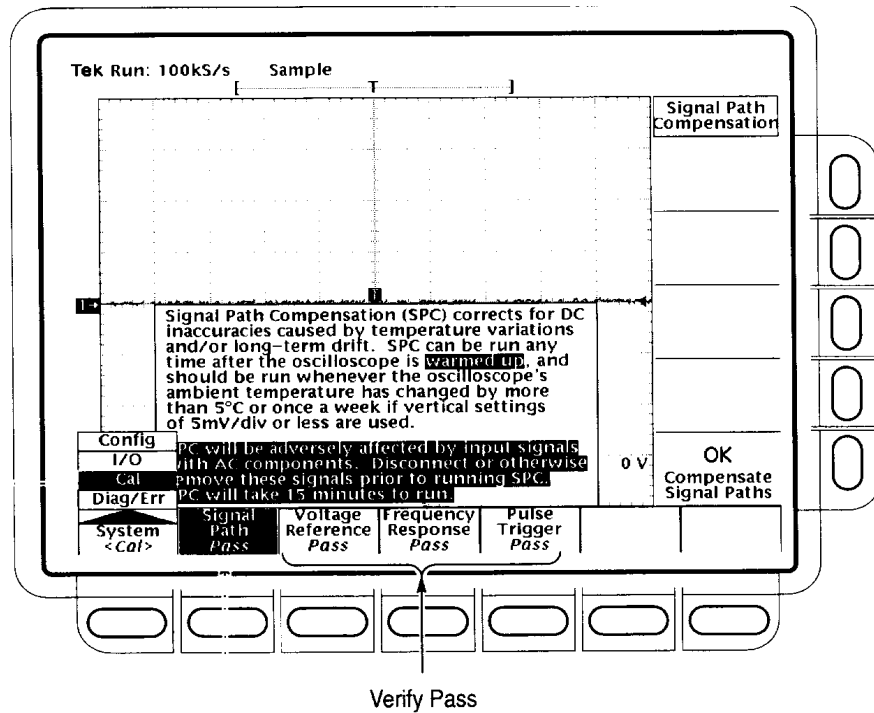

Figure 1. Pass location.
(7) When the verification is complete, verify that no failures are found and reported on-screen.
(8) Press front-panel **SHIFT** key.
(9) Press front-panel **UTILITY** key.
(10) Repeatedly press main-menu **System <config>** key until **<Cal>** is highlighted in the pop-up menu.
(11) Verify that the word **Pass** appears in the main-menu under the following menu labels: **Voltage Reference**, **Frequency Response**, and **Pulse Trigger**. See figure 1.